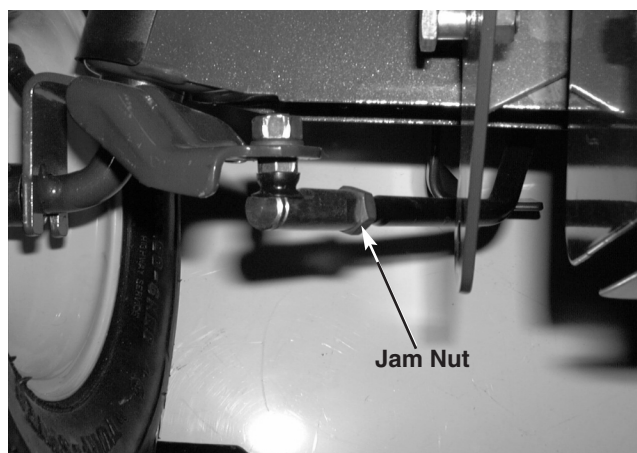

FIGURE 3.
- 9). Loosen the jam nut at the rear of the right ball joint that secures the ball joint to the drag link using a 1/2" wrench and an 11/16" wrench. See figure 3.